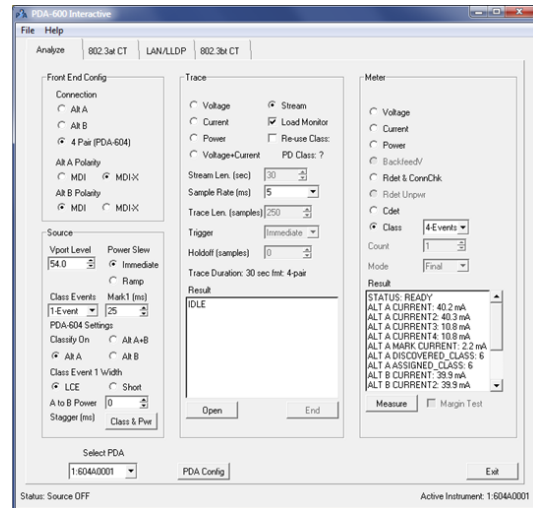

Figure 16: Analyze Menu Class Measurement
**Analyze:** The Analyze menu (see Figure 16) supports interactive powering, metering, and waveform trace captures. With the **CT-AT** feature option, it adds access to the Load Monitor and Stream Tracing features of the PDA-604A. The **Type-3/4** feature option further enhances this menu by allowing 4-Event / 5-Event power-ups and PD Class measurements (see Figure 16). In general, the Analyze menu enables intuitive methods of manually testing and analyzing many essential characteristics of a PD.